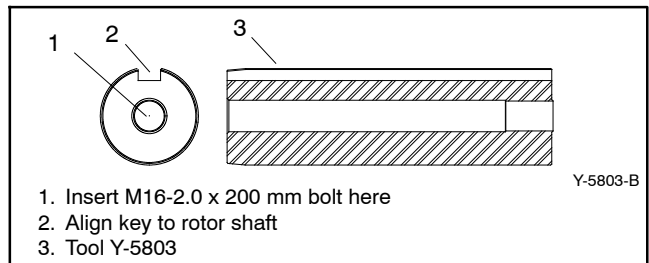

Figure 11-23 Installing Tool Y-5803
24. Install tool Y-5803 or equivalent on the rotor shaft and attach using an M16-2.0 x 200 mm bolt. Align tool with rotor shaft keyway. See Figure 11-23.